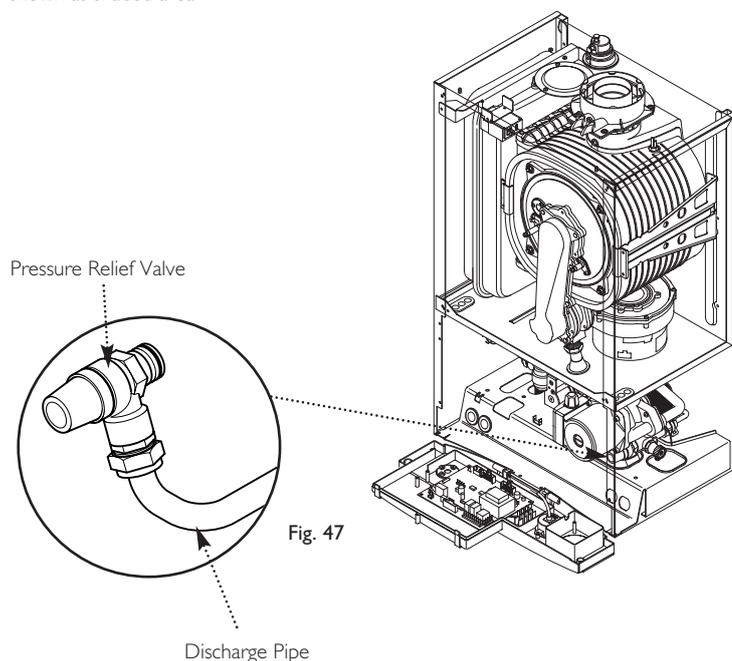

Fig. 47
10.4 Fitting the Pressure Relief Discharge Pipe (Fig. 47)